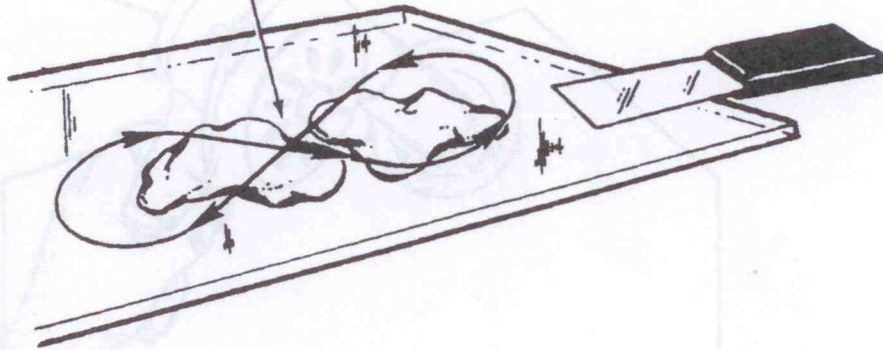

Figure 4-12. Mixing of Epoxy Patching Compound.
6. The patching compound is mixed in equal portions on a hard flat surface using a figure eight motion. The damaged area is cleaned with perchlorethylene or VM&P Naphtha prior to applying the compound. (Refer to Figure 4-12.)